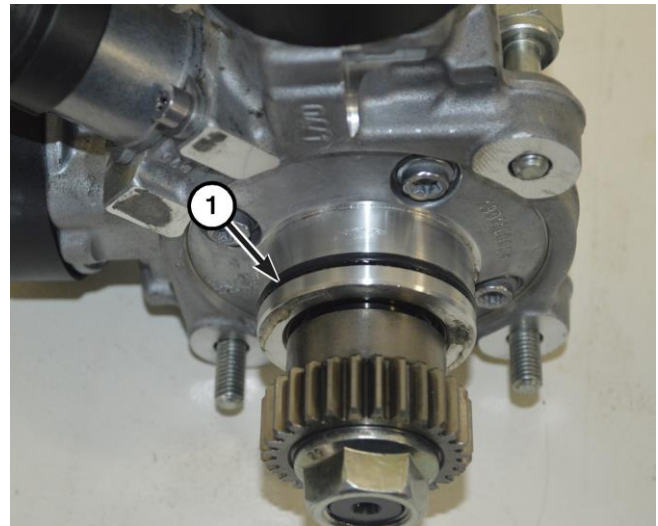

Figure 75 – HPFP O-ring
11. Install a **NEW** O-ring seal (1) to the fuel injection pump (Figure 75).